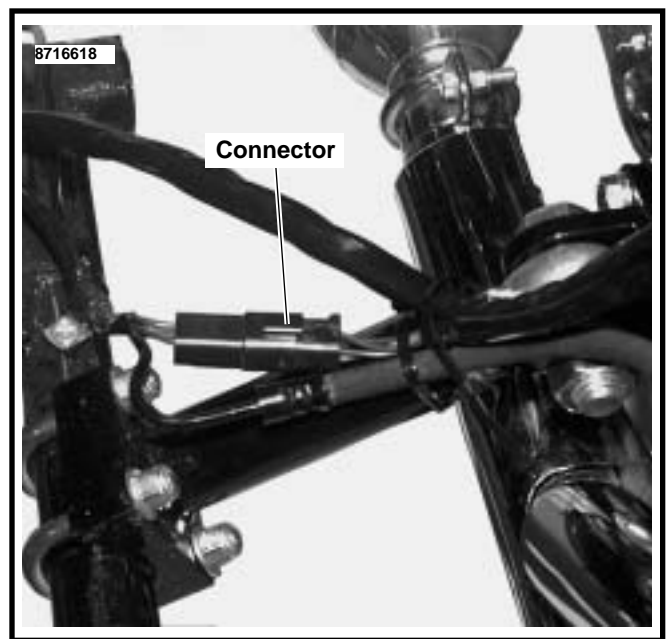
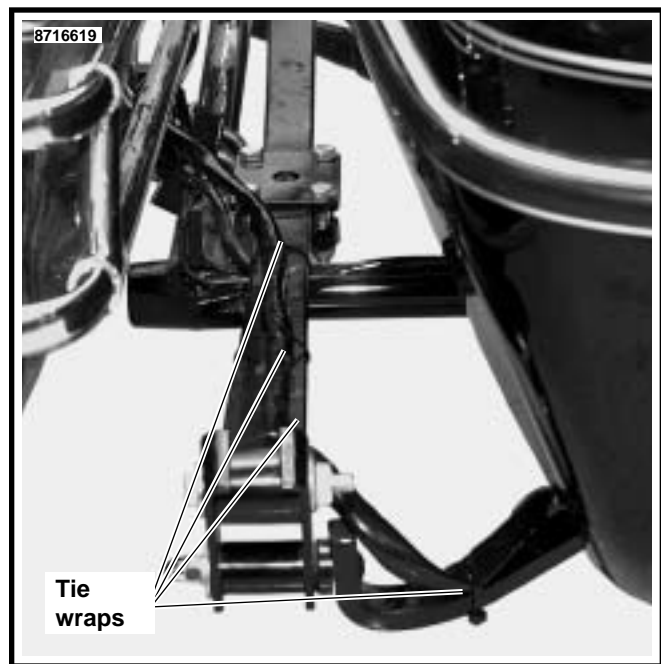

Figure 19. 1994 Lower Harness Connector
Figure 21. Sidecar Harness Routing
4. See Figure 19. Connect the lower harness connector, between the sidecar and motorcycle. Tie wrap to frame as shown in figure 21.
1. See Figure 21. Route harness from sidecar, over the inside spring. Tie wrap to the rear spring support bracket and in three places on leaf spring. Route up frame member, in front of battery.